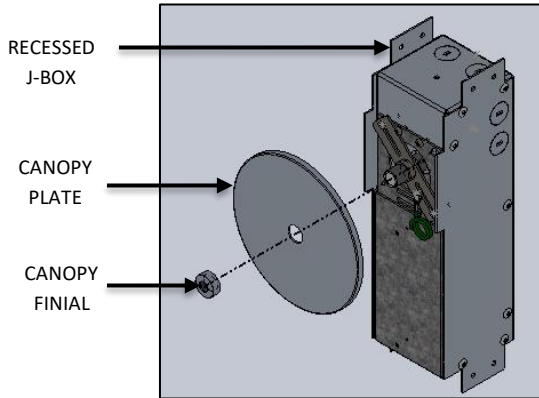

FIG. 8 - FINIAL AND CANOPY DISASSEMBLY
1. Unscrew CANOPY FINIAL and remove the CANOPY PLATE out of J-BOX as shown in FIG 8.